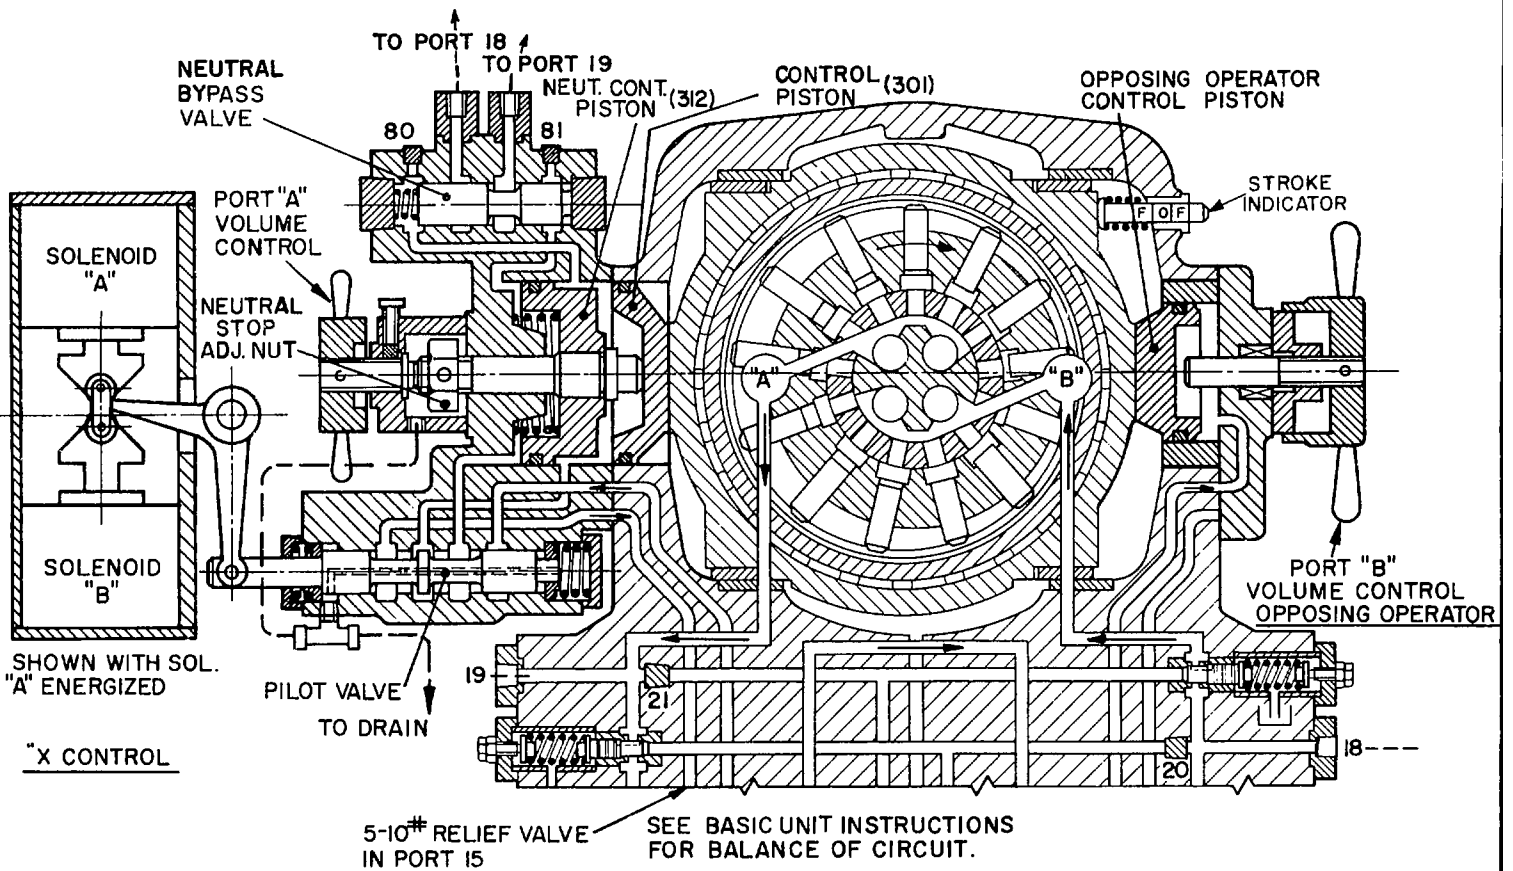

Figure 2. Cutaway Diagram of "X" Controlled Units DS-947820 G (53950G)
See figure 2. Energizing solenoid "A" moves pilot valve plunger to the left, blocking control fluid and connecting neutral piston (312) and control piston (301) chambers to drain thru a 5 to 10 lb. relief valve installed in port 15 (not used on transmissions). Control fluid, always present behind the opposing operators small area piston, forces the slideblock to the left until the control piston (301) and neutral stop adjusting screw meets port "A" volume control adjusting screw. Port "A" volume control adjusts the displacement of the unit port "A" side when solenoid "A" is energized.